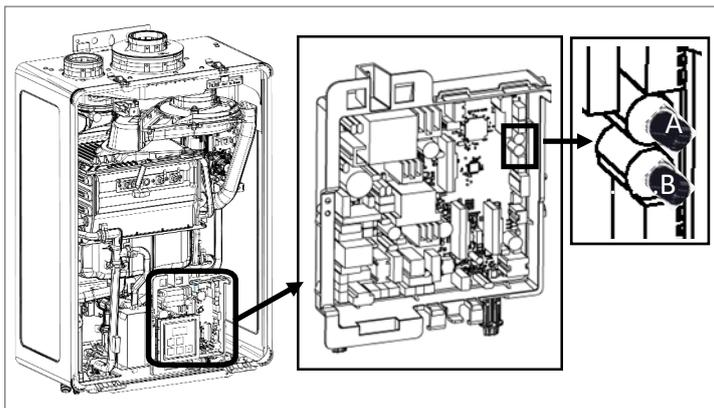

Figure 79
9. Locate the PC Board at lower of unit (Figure 79).